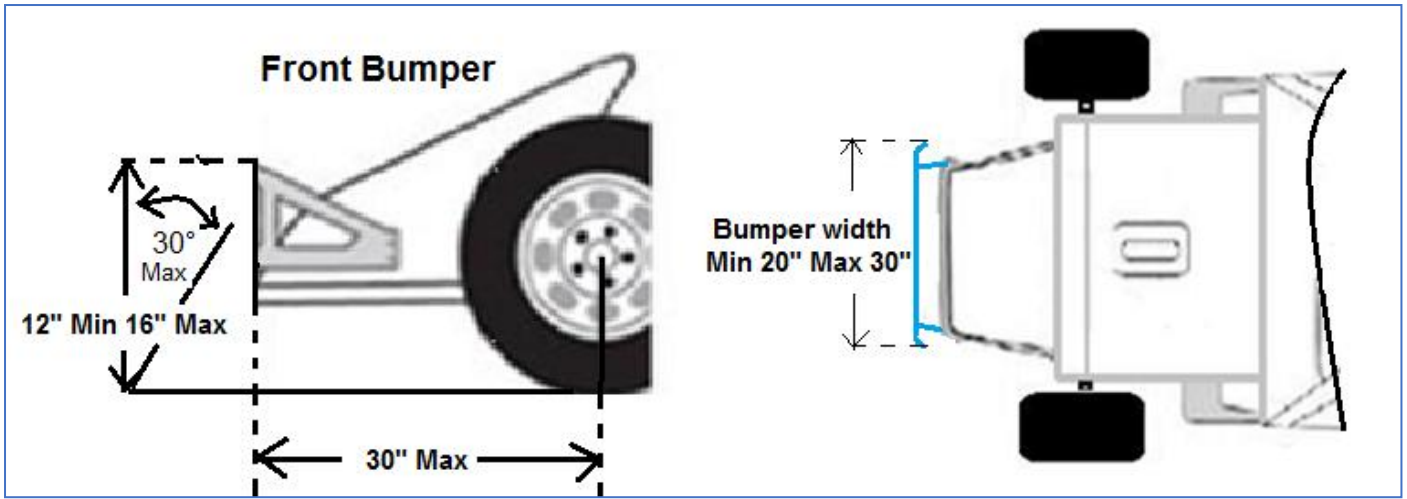

Figure 11
- 16.1** Front bumper maximum width 30 inches and minimum width is 20 inches. Ground to top of bumper must be 12 inches minimum up to 16 inches maximum. Bumper may not extend more than 30 inches forward of the spindle measured from the centre of the front spindle to the outside of front bumper. Front bumpers may have a maximum rake of 30°. (*Figure 11*).